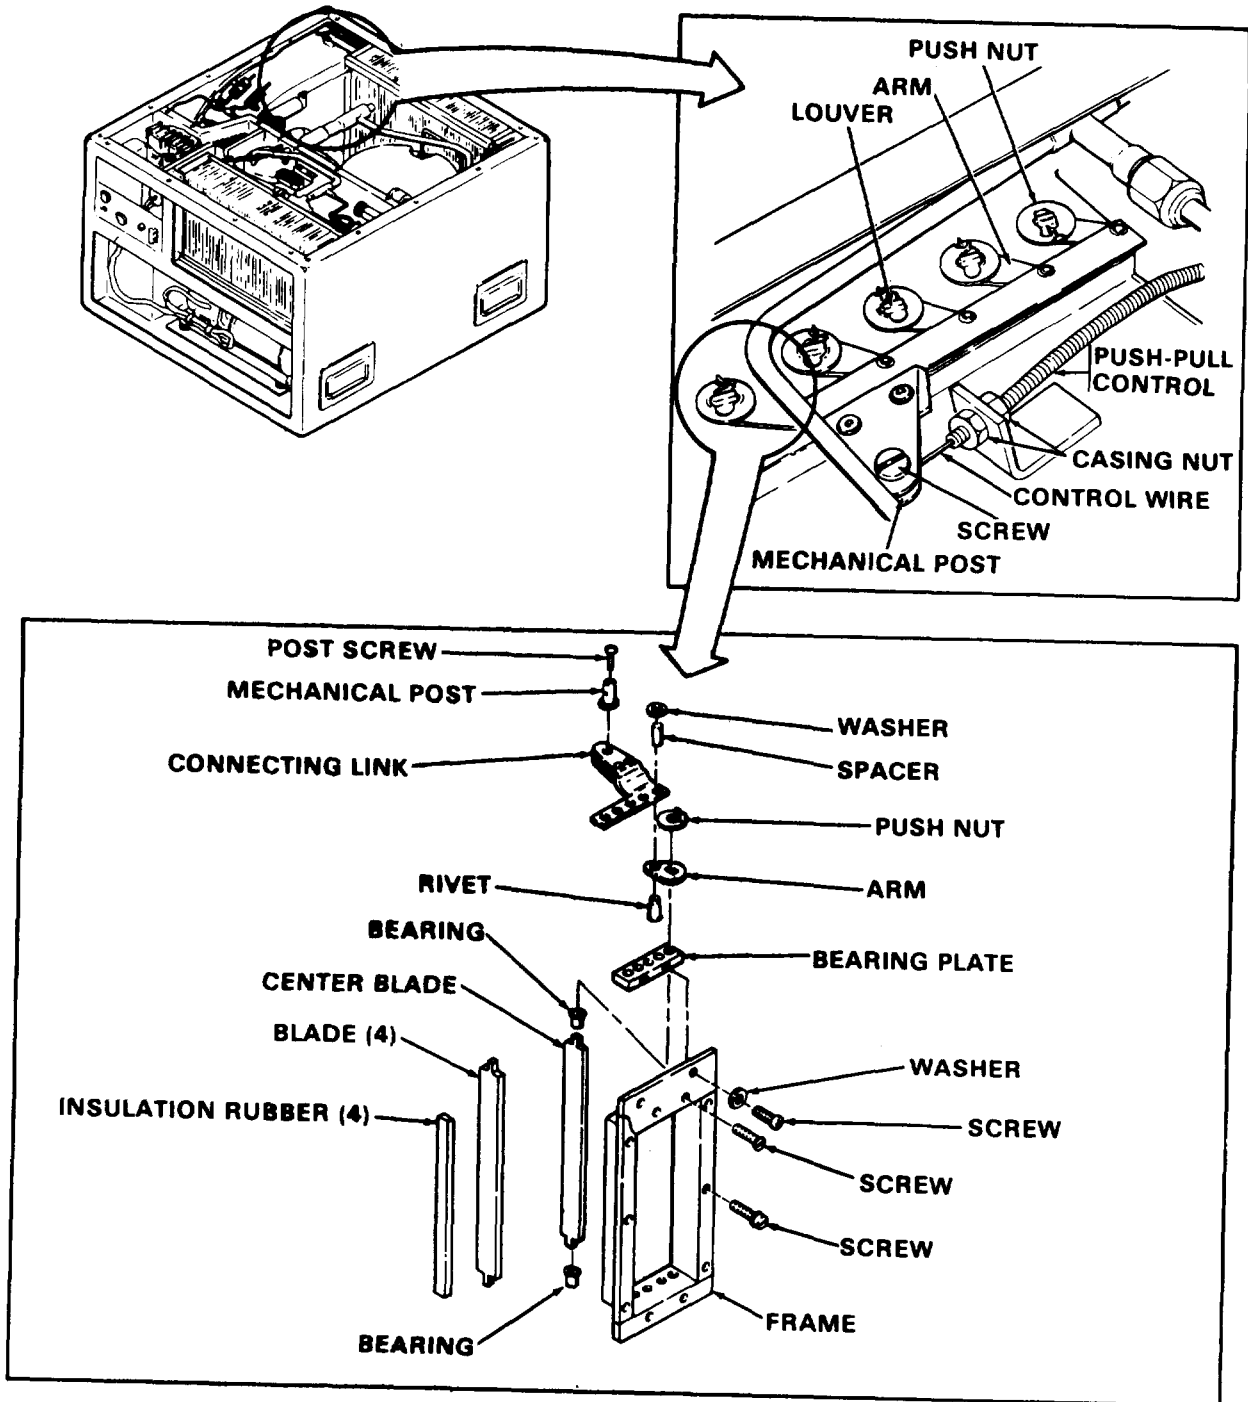

Figure 5-13. Condenser Louver Actuator and Control.
- (1) Refer to paragraph 6-3 and discharge the refrigerant system.
- (2) Refer to paragraph 4-18 and remove housing covers.
- (3) Refer to figure 5-13 and loosen mechanical screw end to loosen control wire.
- (4) Remove screw, lockwasher and loop clamp.
- (5) Remove push-pull control assembly clips at each end and remove push-pull control.
- (6) Disconnect flare nut from end of actuator cylinder.
- (7) Remove two nuts and lockwashers (located inside fan housing) from bracket and remove actuator cylinder. If cylinder is to be replaced, remove rivets and retain push-pull control assembly brackets.
- (1) Reinstall push-pull control assembly brackets on replacement cylinder.
- (2) Install actuator cylinder (figure 5-13) with studs through openings in fan housing. Install lockwashers and nuts on studs.
- (3) Connect flare nut to actuator
- (4) Install push-pull control clips to hold control in position.
- (5) Adjust control as described below.